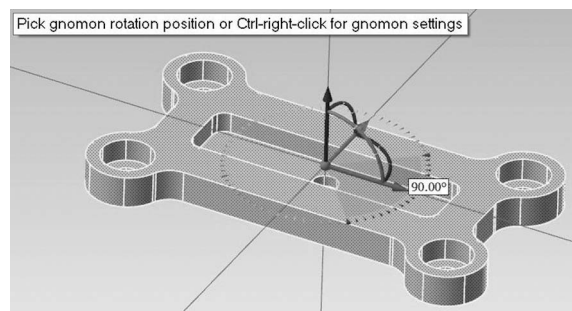

Figure 5-37 Gnomon XForm
- Pick the model origin point, as shown in Figure 5-37. Follow the prompt to manipulate the axes so that the X, Y, and Z align with the direction of the intended setup. Use the left-mouse-button to accept the position.